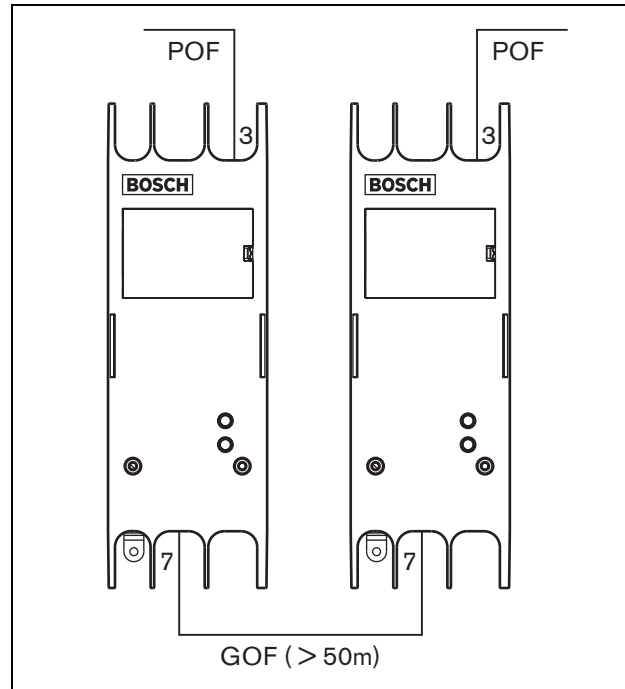

figure 31.4: Using fiber interfaces
Due to light loss, the maximum length of POF cabling (and therefore also system bus cables) between two pieces of equipment is 50 m. If the distance between two units is more than 50 m, PRS-FIN(NA) or PRS-FINS Fiber Interfaces and glass optical fibers (GOF) must be used (see figure 31.4).